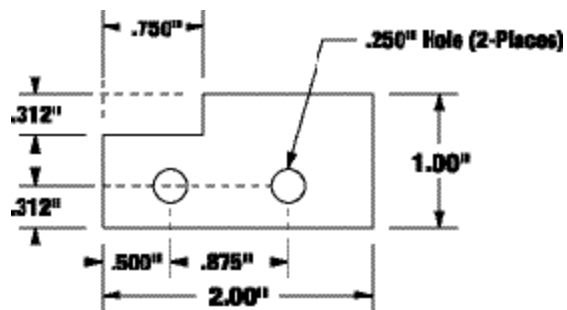

Figure 3 - Cruise Control Bracket
- BRACKETS: On vehicles with cruise control using a Performer RPM series intake manifold (#7176 or 7576), a bracket must be fabricated to move the cruise control clamp (See Figure 3 for reference). This ensures proper clamping of the cruise control cable. Also, due to the high-rise design of Performer RPM intake manifolds, there may be slight interference between the throttle linkage bracket, and the intake runner wall. Minor grinding to the throttle bracket may be required to provide clearance.